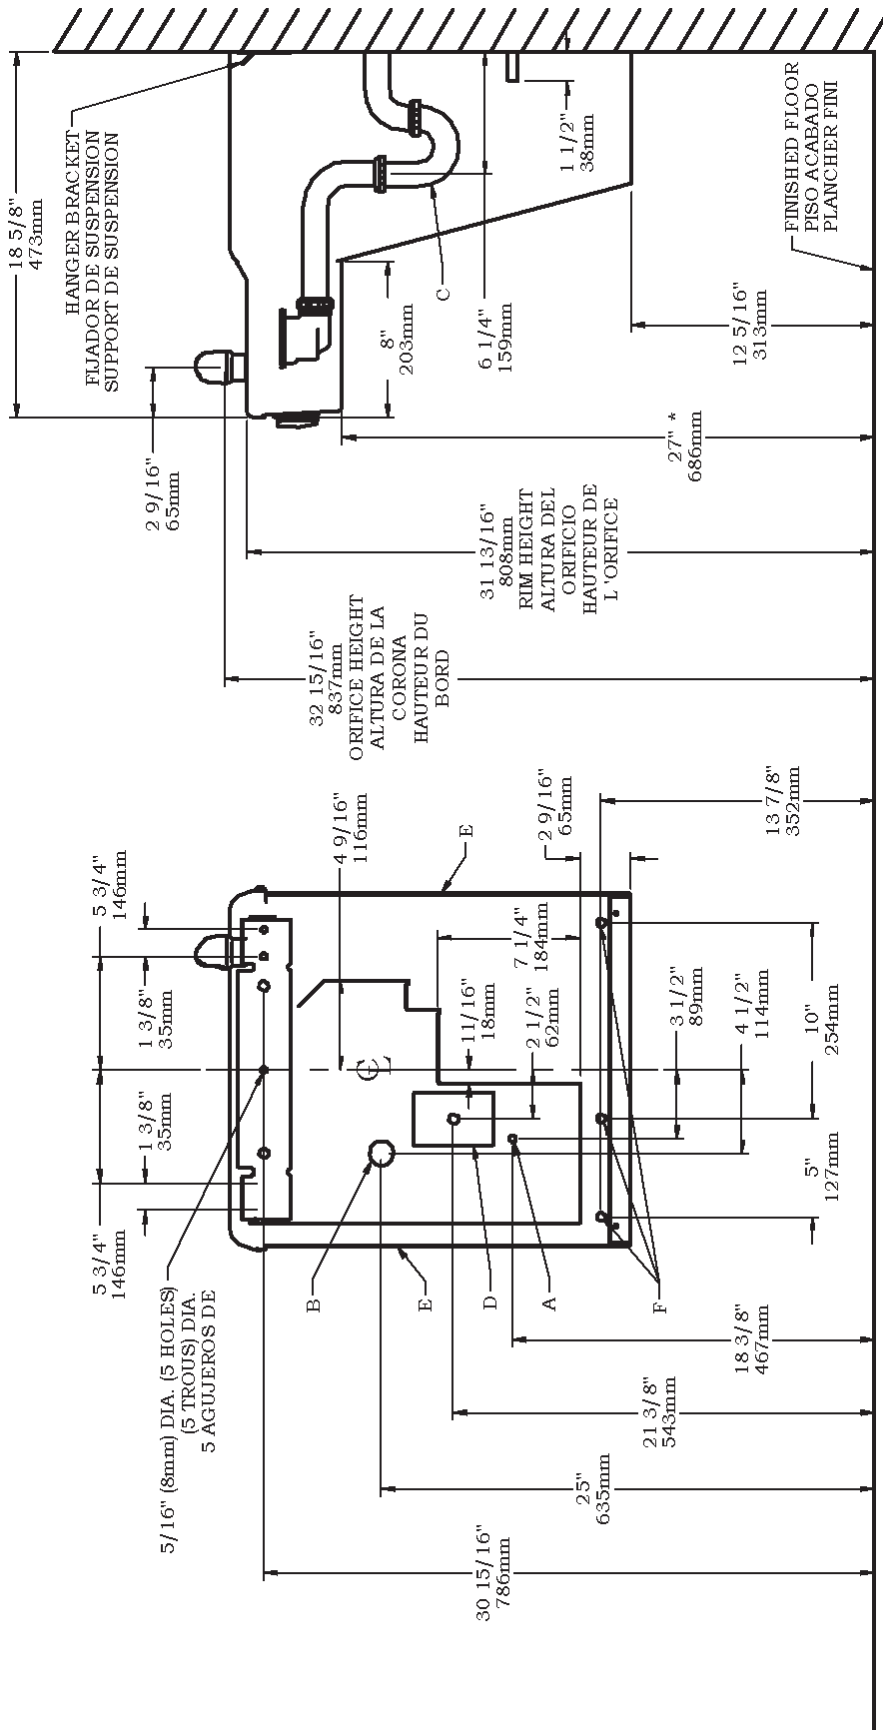

Fig. 2
- 1) Remove hanger bracket fastened to back of cooler by removing one (1) screw.
- 2) Mount the hanger bracket and trap as shown in Figure 2.
- 4) Hang the cooler on the hanger bracket. Be certain the hanger bracket is engaged properly in the slots on the cooler back as shown in Figure 2.
- 5) Loosen the two (2) screws holding the lower front panel at the bottom of cooler base and two (2) screws at the top (**Use torx bits sold separately**). Remove the front panel and set aside.
- 7) Remove the slip nut and gasket from the trap and install them on the cooler waste line making sure that the end of the waste line fits into the trap. Assemble the slip nut and gasket to the trap and tighten securely. Recommend fastening cooler to wall using 7/16 bolt holes. (see fig.2, "F")